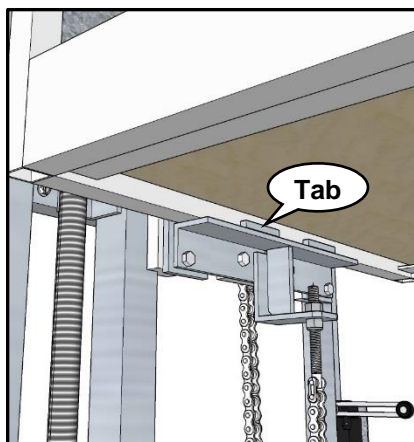

Figure 22
- 3** When positioning car on trolley, make sure the tabs are hooked under car as shown in Figure 22.